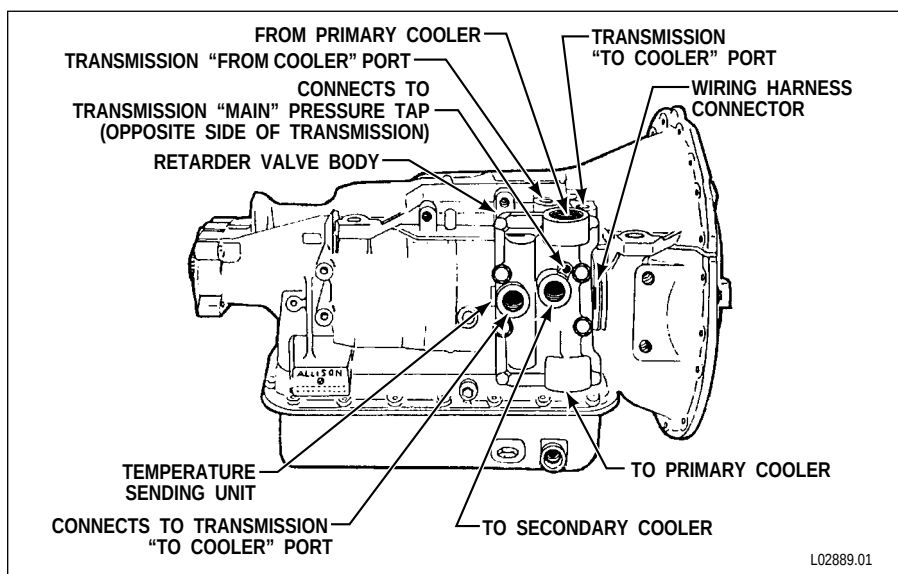

Figure 5-3. AT 500R External Connections
NOTE: On retarder units there are two coolers to connect. See Figure 5-3 for proper location of cooler connections. Tighten cooler fittings on the primary cooler to 40–50 lb ft (54–68 N·m). Tighten cooler fittings on the secondary cooler to 15–22 lb ft (20–30 N·m).
- Connect the wiring harness to the electrical connector on the retarder valve body (Figure 5-3).
- Insert the temperature sending unit into the retarder valve body (Figure 5-3). Tighten the sending unit connector to 15–20 lb ft (22–27 N·m).